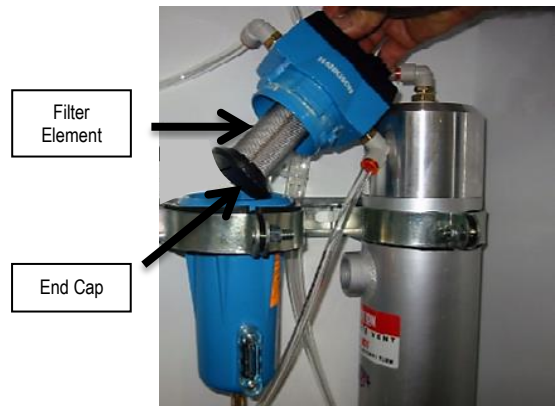

Figure 2: Removing Filter Head
2. Rotate the self-locking bayonet head 1/8 turn counterclockwise to release it from the bowl (see Figure 2).